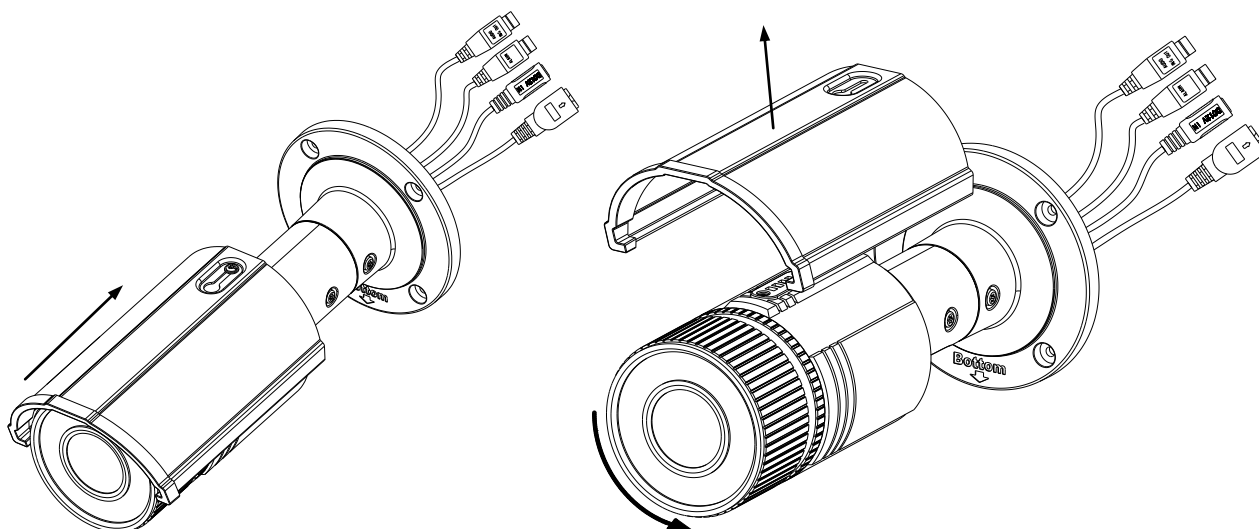

Figure 4-26 Disassemble the Camera
1. Rotate the TW M3X5 screw counterclockwise about 3 to 4 rounds to loosen it. Slide the sun shield according to the arrow direction as shown in Figure 4-26(left).
2. Remove the sun shield according to the arrow direction as shown in Figure 4-26(right).
3. Remove the front cover by rotating it counterclockwise as shown in Figure 4-26(right).